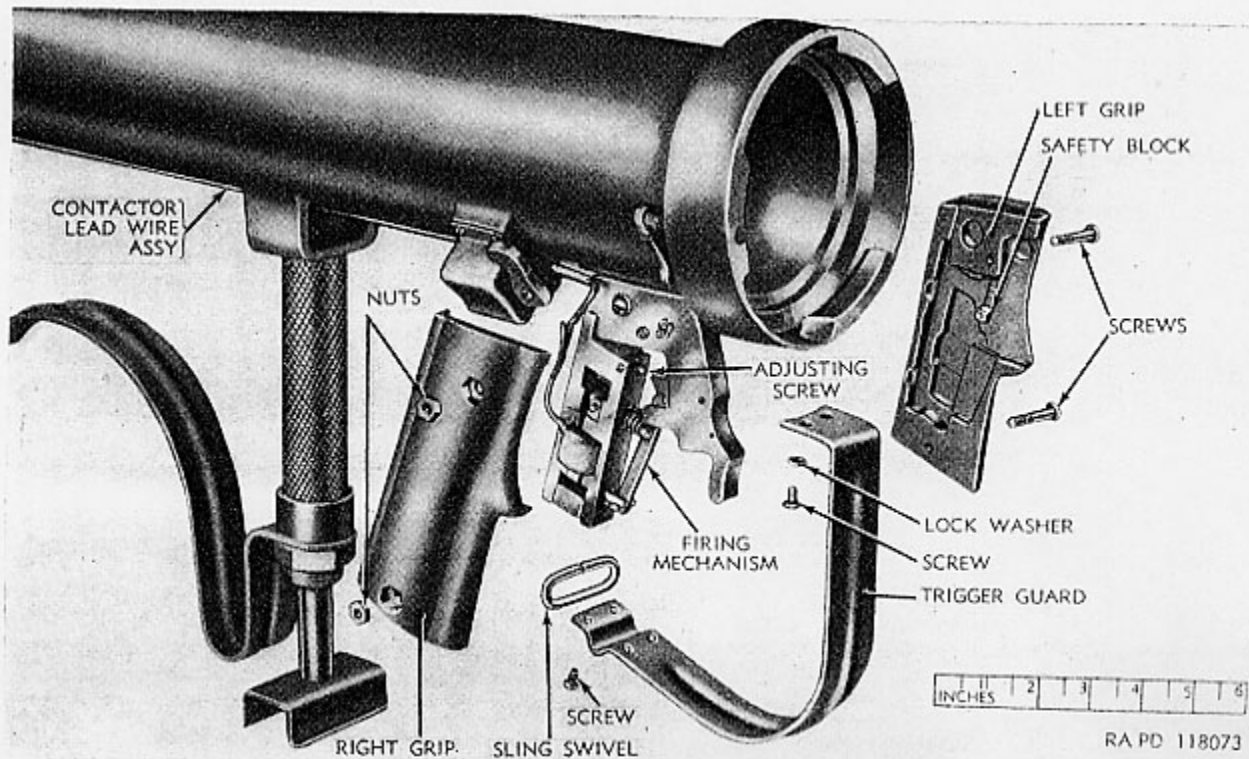

Figure 29. Firing Mechanism B7140325 (double action)—grips removed.
- (a) Unscrew the four screws which secure the trigger guard to the grips (fig. 29). Unscrew the two screws which secure the trigger guard to the launcher, taking care not to drop the lock washer which is on each screw.
- (a) Wear or loosening of the adjusting screw (fig. 29) may require resetting of this screw. To reset the adjusting screw, loosen the set screw which locks the position of the adjusting screw. Insert a small screwdriver through the hole in the bottom plate and turn the adjusting screw clockwise (slightly) to take up wear.